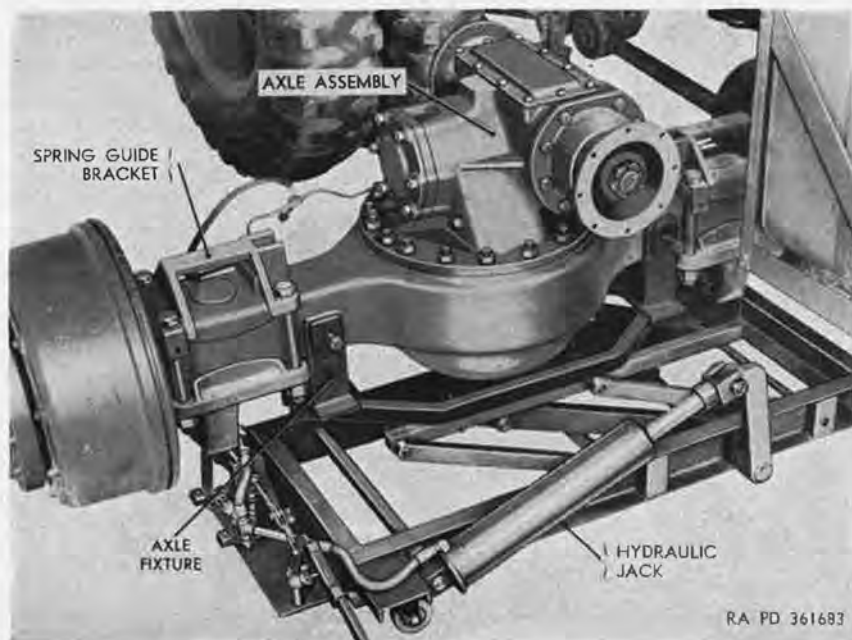

Figure 235. Removing forward rear axle assembly.
- (9) *Remove axle assembly* (fig. 235). Lower hydraulic jack sufficiently to allow removal of axle from under truck. Pull jack with axle assembly sideways and out from under side of truck.
- (1) *Position axle assembly.* With forward rear axle supported by hydraulic jack in lowered position (fig. 235), push jack and axle assembly under side of truck. Raise axle on jack until front ends of rear springs (fig. 228) are alined with spring guide brackets on top of axle housing, and push axle toward rear of truck so that spring ends enter guide brackets.